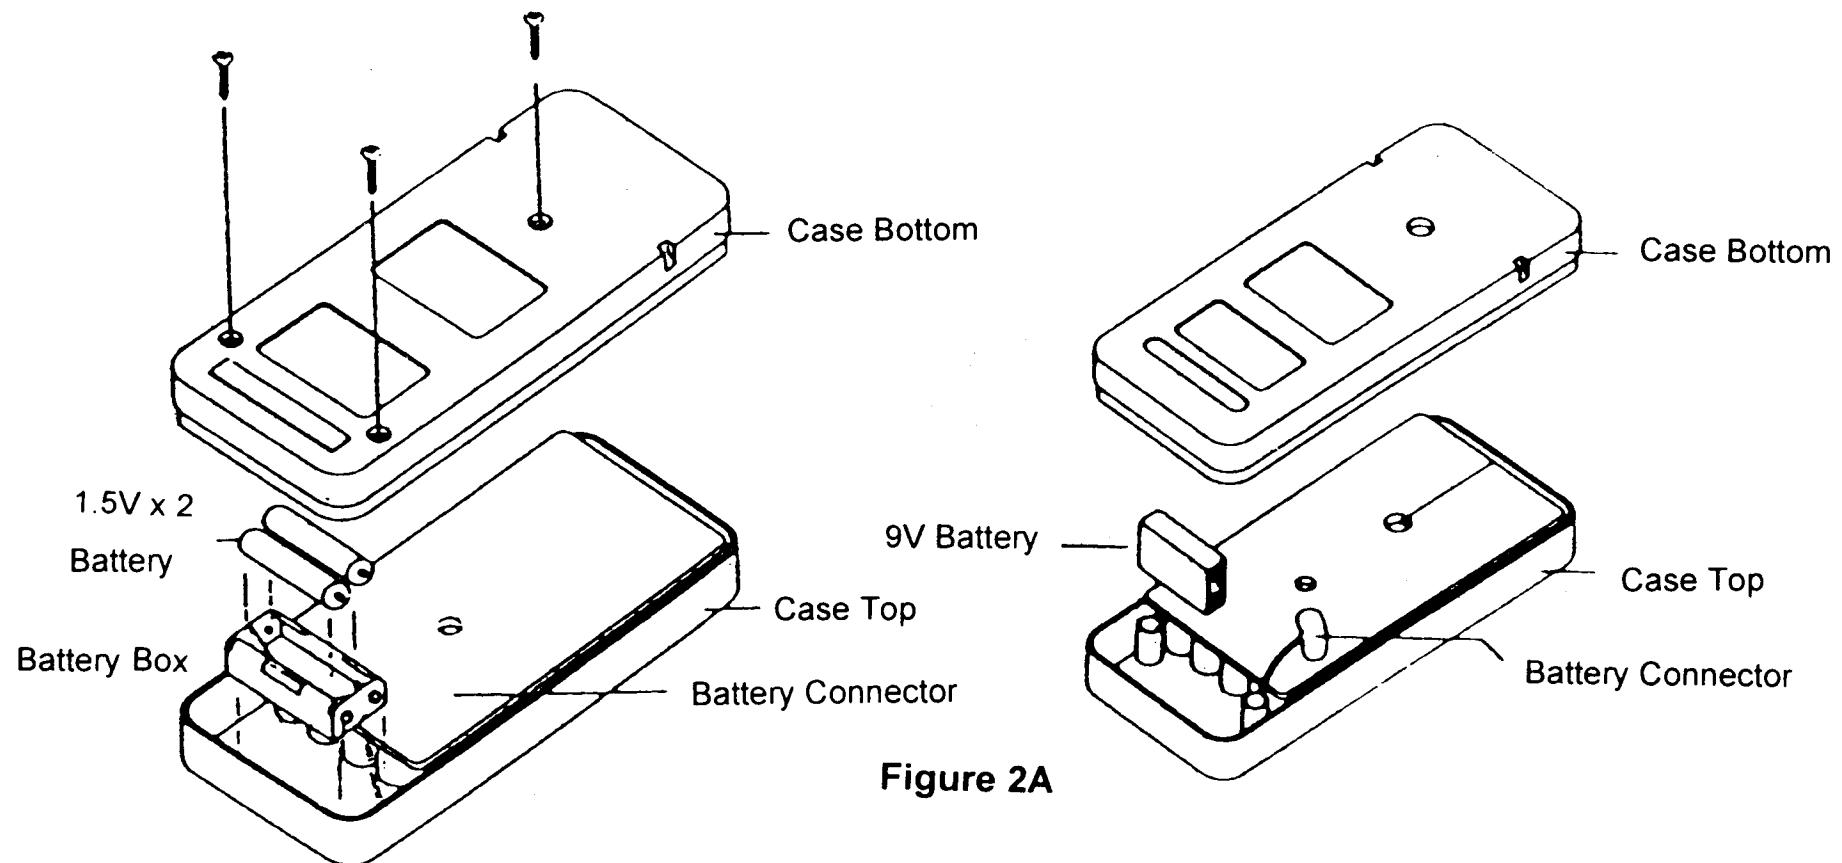

Figure 2A
(4) Changing batteries
These meters are powered by two 1.5V batteries (97) or one 9V battery (97RMS). To change the batteries, see Fig.2A and follow the instructions given below.